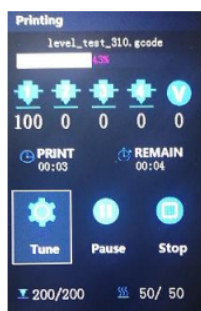

Fig 1
1. Copy level\\_test\\_310.gcode to SD card and print it from SD card (Fig 1).